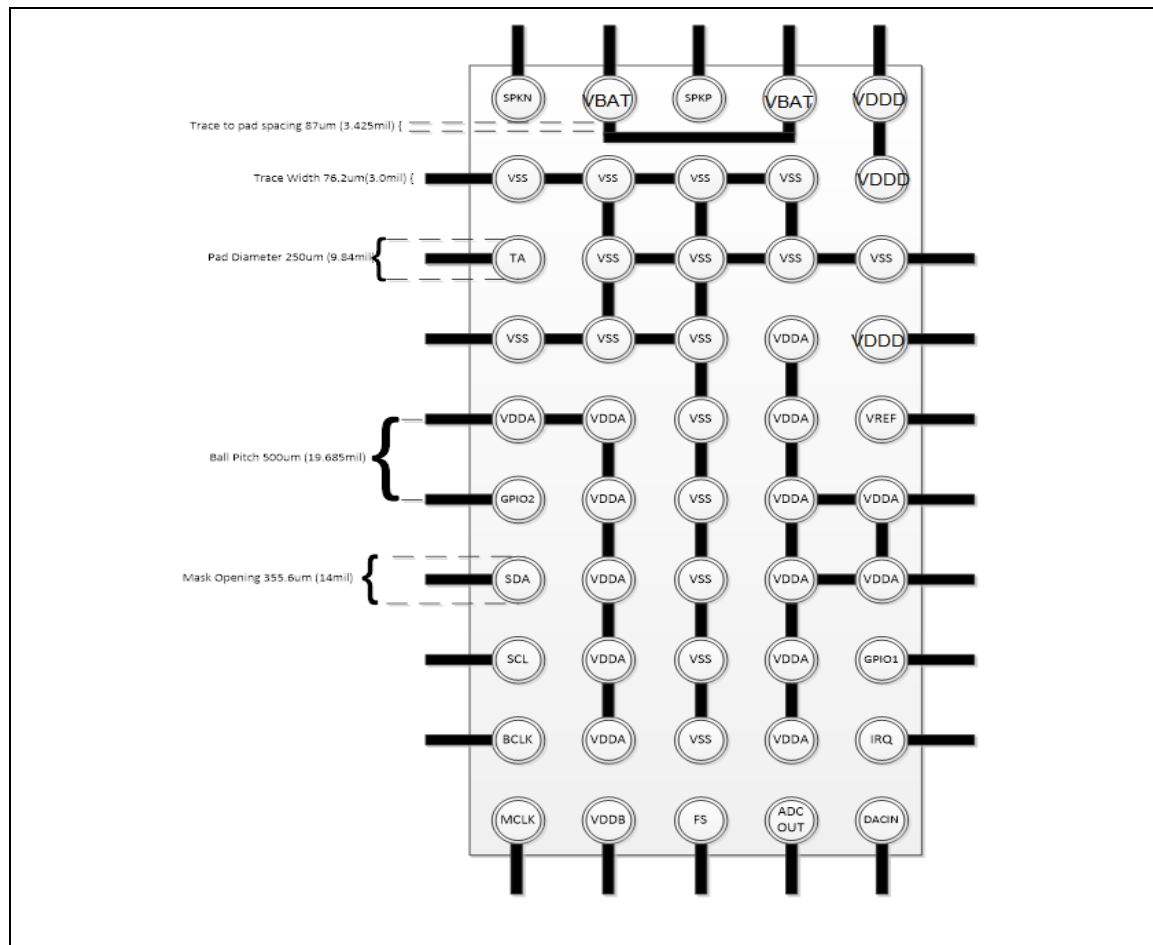
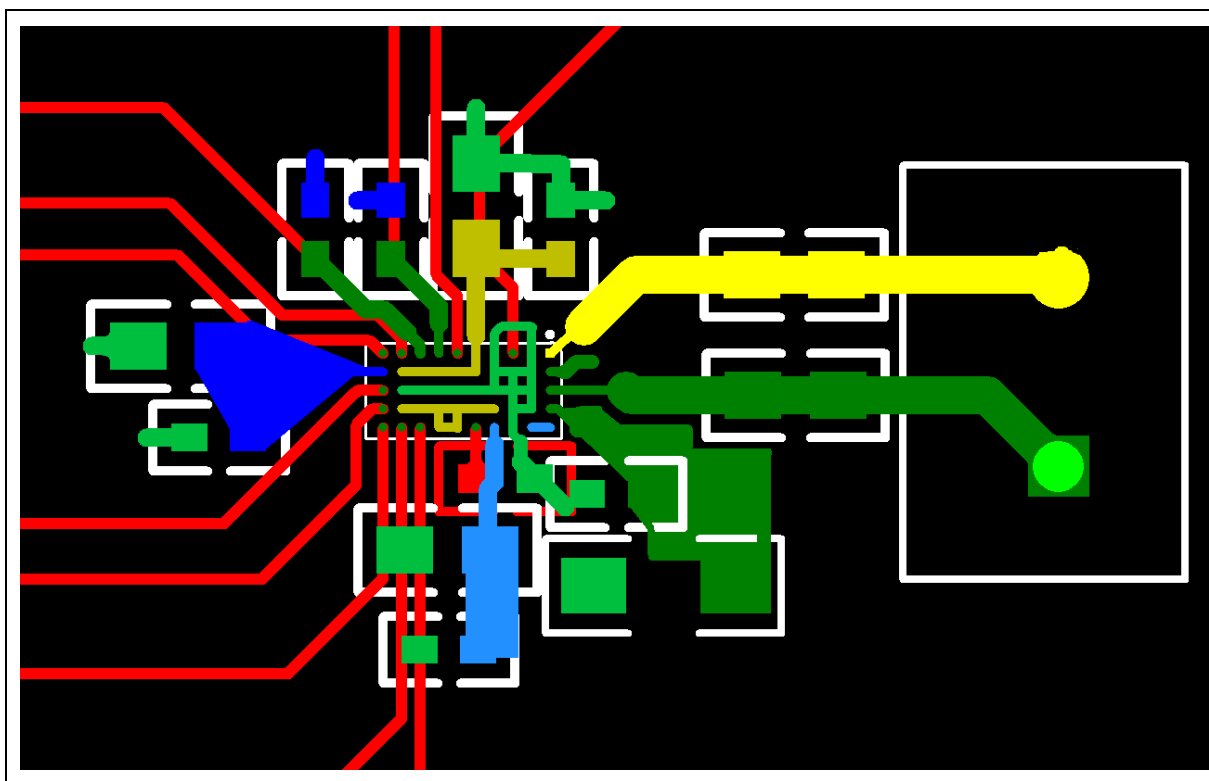

Figure 14 Recommended PCB Footprint
Figure 15 Layout Traces Example
The recommended footprint for the PCB layout for the NAU83G20 is provided in **Figure 14**, as viewed from the top of the pcb.
- For the traces that run between the balls, follow the guidelines listed in **Figure 14** and see the example illustrated in **Figure 15**.